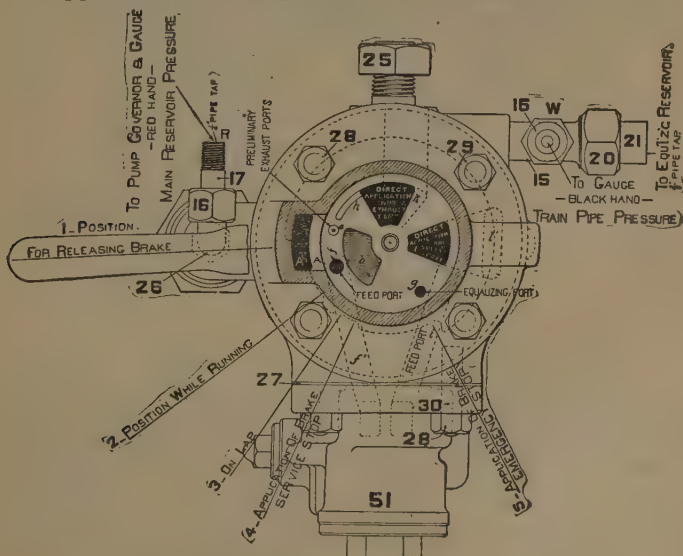

Fig. 283. Engineer's Brake Valve, "G-6," Plan View.
A. The handle 8 of the brake valve is moved to 2, Figs. 283 and 284, "position while running."
thence through the feed valve and passages *i*, *l*, *l*¹, Fig. 283, into the train pipe at *Y*. Port *g* still connects *D* with *c*, and as this last overlaps *l*, the equalizing reservoir is in connection with the train pipe.
A. That in which (Fig. 283) the "direct application and exhaust port" *k* and the "direct application and supply port" *l* are connected by a large cavity *c* in rotary valve 14, permitting very rapid train-pipe discharge.